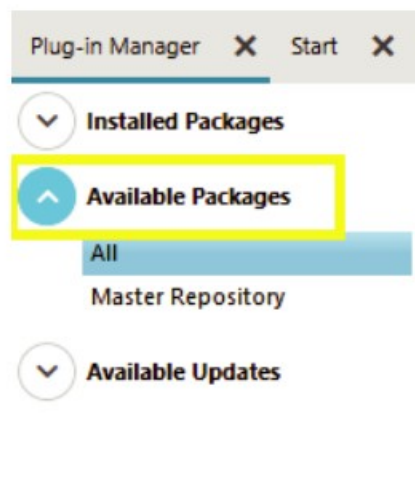

Figure 3. Plug-in Manager Option in the Sidebar
2. Run the ACE Software, select the Plug-in Manager from the ACE sidebar to install the board plug-in that supports the AD4857 evaluation board, and select Available Packages, as shown in Figure 3. You can use the search field to help filter the list of boards to find the AD4857 board. See the ACE Quickstart – Using ACE and Installing Plug-ins guide for additional information.